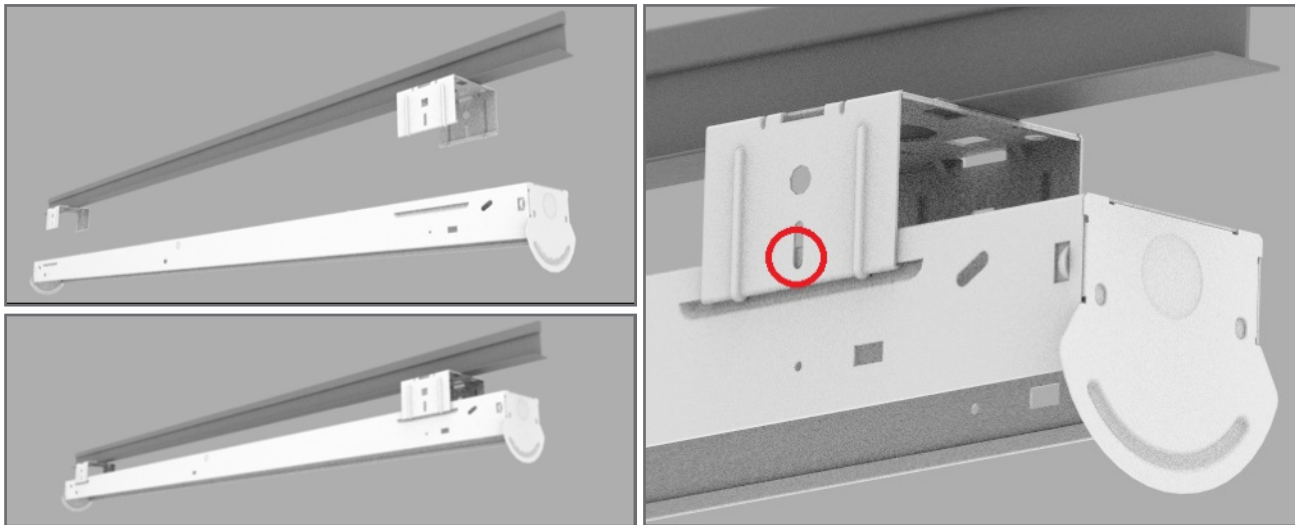

FIGURE 13
4. Press the housing into the T-bar hanger brackets so that it snaps into place, as shown in Figure 13. It is recommended to place a self-drilling screw (by others) at the circled location for increased security.